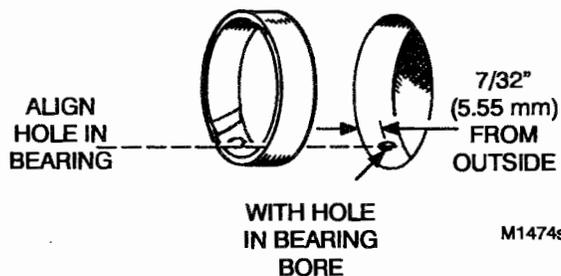

FIGURE 9-33. CAMSHAFT BEARING
2. Position the front bearing so that the oil hole in the bearing is aligned with the oil hole (see Figure 9-33) in the block.